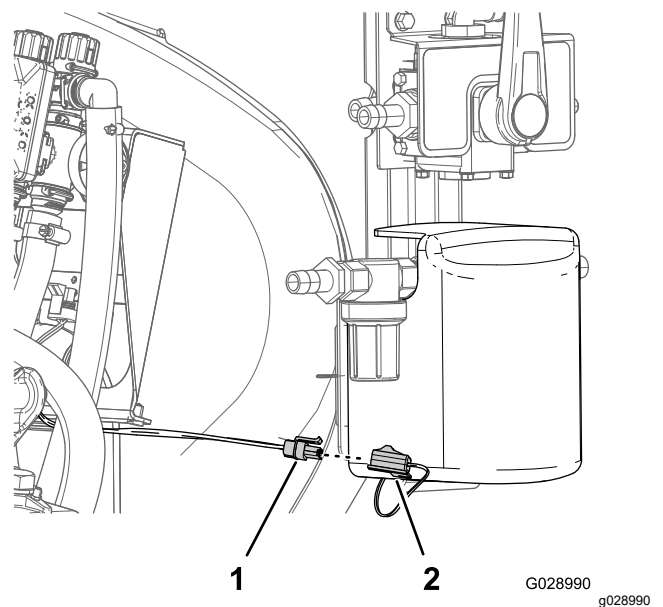

Figure 30
1. Align the 2-socket electrical connector of the wiring harness for the machine with the 2-pin electrical connector for the rinse pump (Figure 30).
2. Press the 2 connectors together until the latch in the 2-socket connector snaps securely (Figure 30).